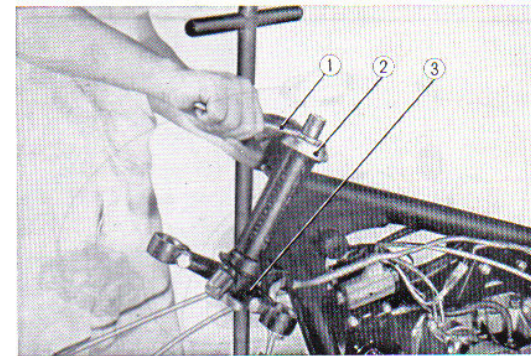

Fig. 4.26 Reassembling the steering stem
2. Mix the 1/4" steel balls (37) in grease, lay into the lower and upper ball races, and carefully insert the stem into the head pipe, exercising care not to drop the balls. Tighten the steering head top thread. (Fig. 4.26)